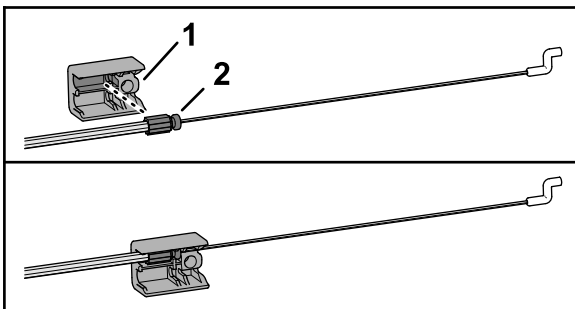

Figure 7
1. Insert the fitting at the end of the cable sheath into the upper socket of the handlebar fitting (Figure 7).